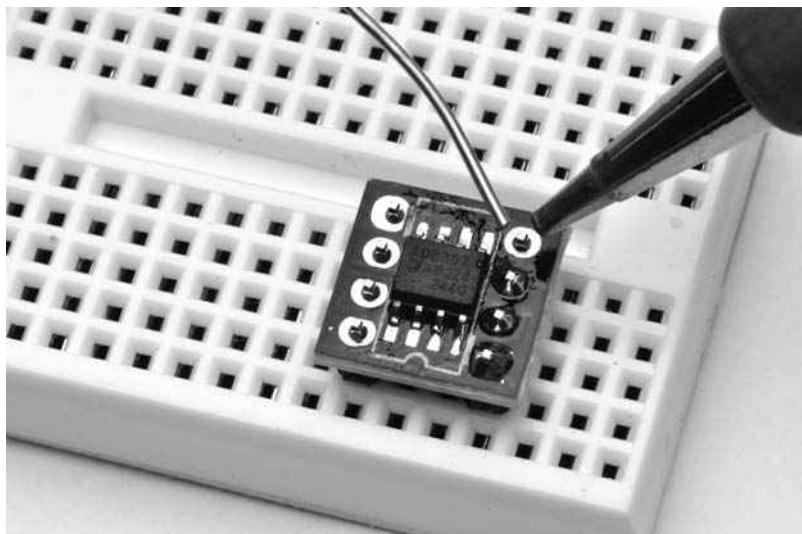

FIGURE 14-16 Soldering the 4-pin headers to the carrier.
5. Solder two 4-pin headers to the carrier (Figure 14-16). We use a solderless breadboard to hold the header pins while soldering.